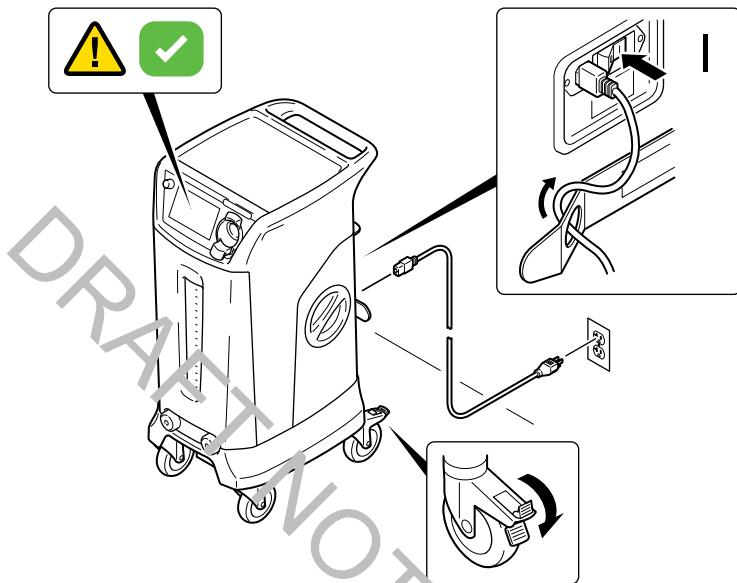

Figure 16 – To Connect Power
1. Connect the rover to facility electrical power using the supplied power cord. Insert the plug of the power cord through the strain relief hole before connecting the power cord to the rover (Figure 16). The power cord plug has a latched release button to prevent unintended removal from the rover power receptacle.